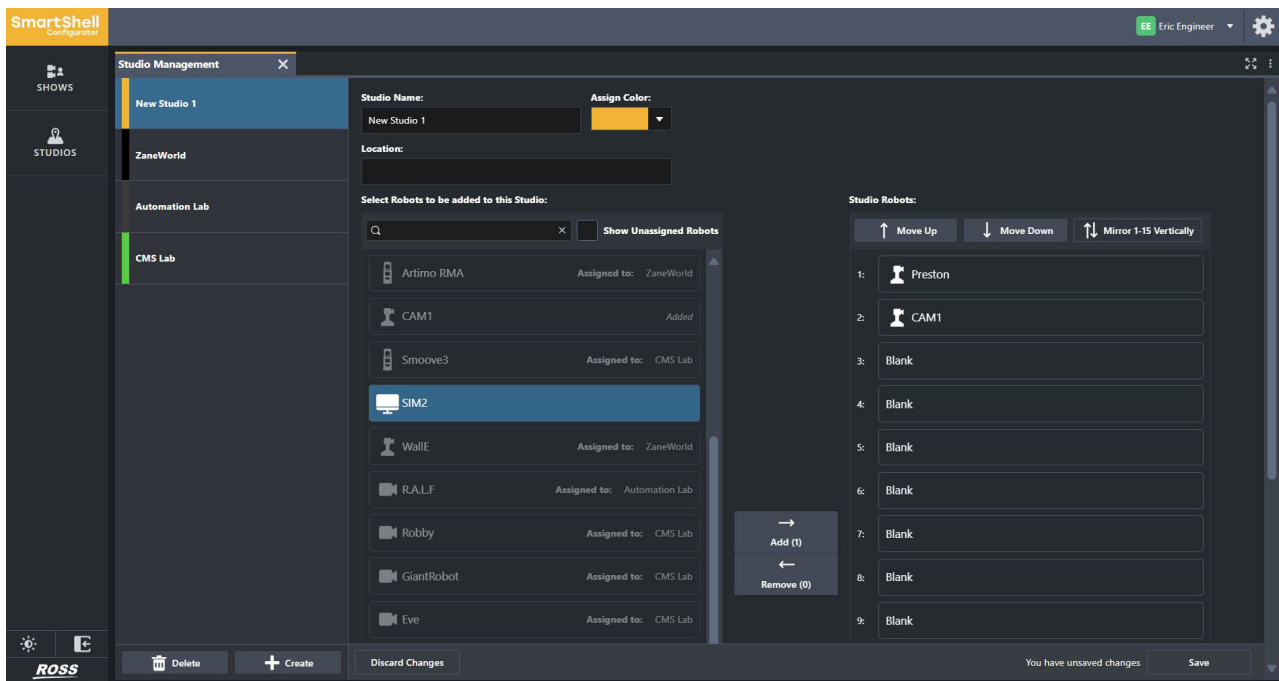

Figure 4 - Studio Management Page
Figure 4 shows the **Studio Management** page.
- **Assign Color** – Opens a color picker (Figure 4) where you can assign a studio color.